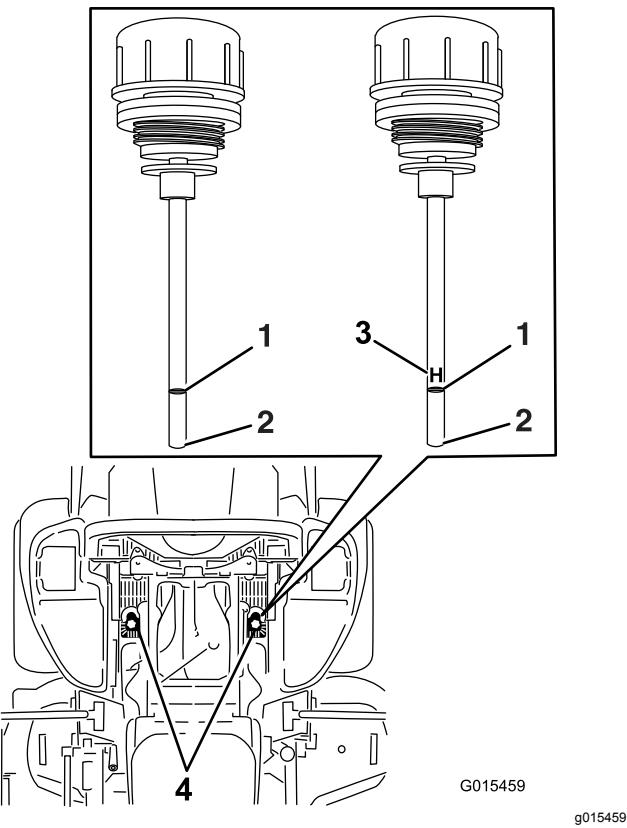

Figure 87
6. Clean the area around the dipsticks of the hydraulic-system reservoirs (Figure 87).
7. Remove one dipstick from the hydraulic reservoir (Figure 87).
9. Remove the dipstick and look at the end (Figure 87). If the oil level is at the add mark, slowly pour only enough oil into the hydraulic reservoir to raise the level to the full or H line.